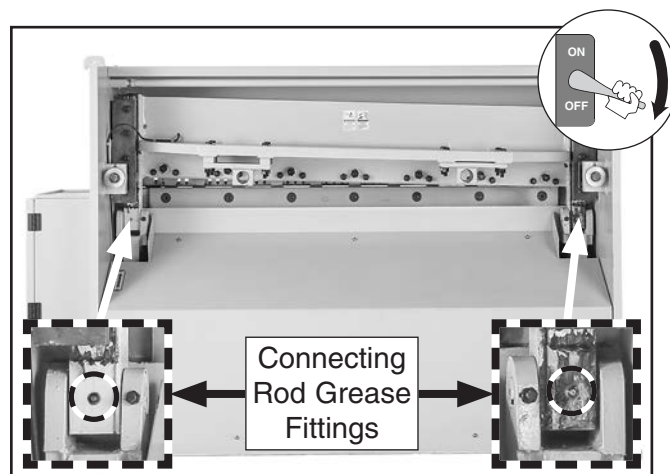

Figure 47. Connecting rod lubrication.
2. Clean area around grease fittings on bottom of blade frame where shown in **Figure 47**.